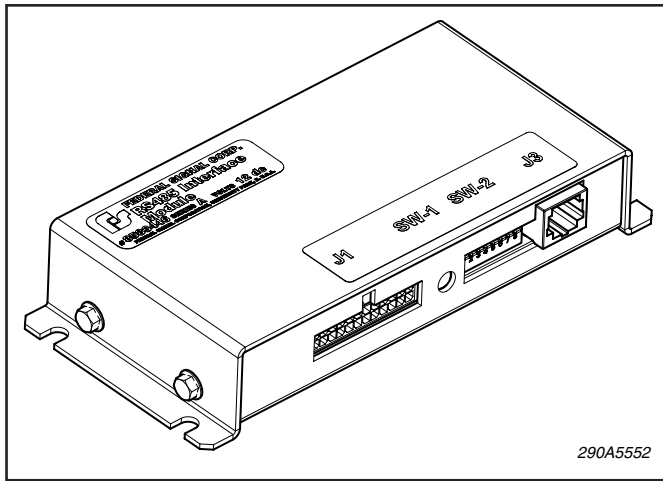

Figure 1.
The Serial Interface Module can be identified by part number 8583446 on the nameplate located on the top of the unit. The 8583446-INT has been configured for internal SignalMaster operation. This module can be identified by a label stating "FACTORY CONFIGURED FOR INTERNAL SIGNALMASTER." A 3-foot-long, 24-conductor control link cable harness is also provided for external connection (J1) to the module (Figure 1 on page 2).
4. See Figure 1. Install the lightbar's serial cable to noted J3 output jack of the Interface Module.
5. See Figure 1. Install supplied 3-foot-long, 24-conductor cable to noted J1 input connector of the Interface Module.